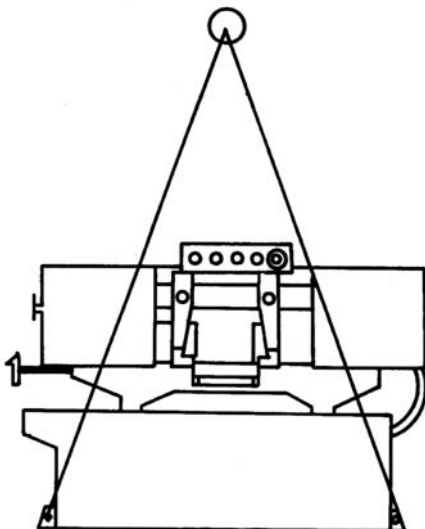

Figure 1
1. Using lifting straps that are isolated from the band saw's finished surfaces, lift machine and place in desired location. See Figure 1 for strap placement.
2. Install four leveling bolts with lock nuts on both sides of the base as shown in the parts breakdown, *sect. 14.1.1*, items 2 and 3.